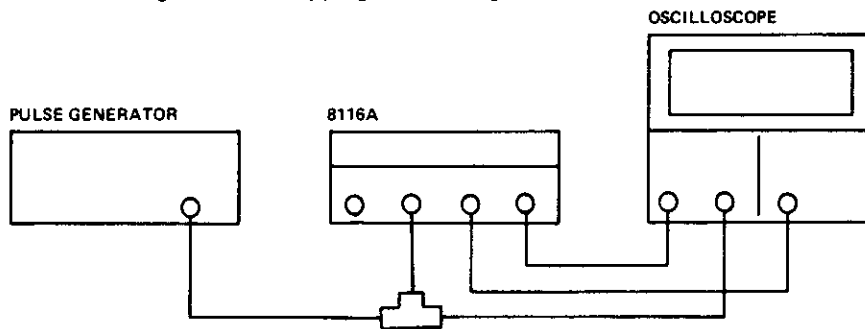

Figure 4-13. Test setup for PWM
1. Connect equipment as shown in Figure 4-13.